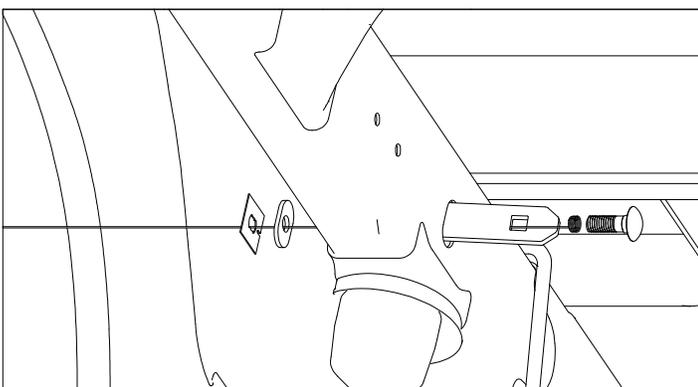

Figure C3: View looking at driver side frame.
- 2. Install frame studs.** Locate the oval hole on the outside of the frame directly over the center line of the axle. To begin, place a 1/2" x 1-1/2" carriage bolt through a locking strap. Next, thread a fish wire onto the end of the carriage bolt. From the inside of the frame pass the fish wire through the oval hole located earlier. While holding the fish wire on the outside of the frame push the locking strap and carriage bolt into the frame, see Figure C3. Continue pulling on the fish wire until the threaded portion of the bolt is sticking out of the frame. Turn the carriage bolt until the square shoulder engages the square hole of strap. Before removing the fish wire, thread the oval frame spacer on the carriage bolt and into the oval slot. Remove the fish wire and thread a bolt retainer on the carriage bolt to hold the bolt in place. Repeat this step on other side of the truck.